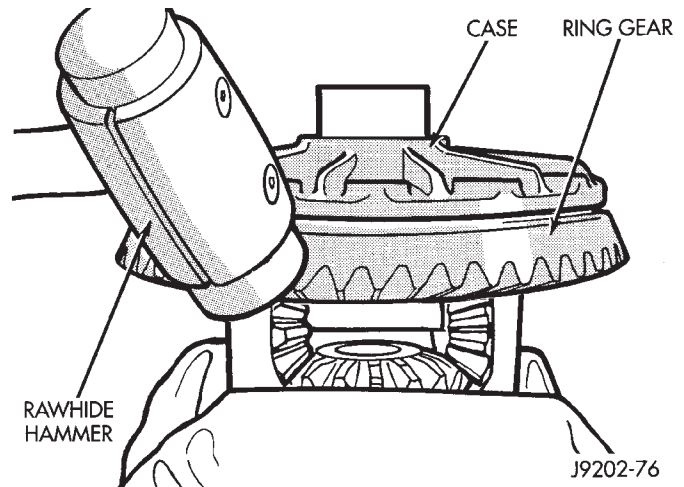

Fig. 28 Ring Gear Removal
(2) Remove bearing shims from case hubs and mark them (with hub identity) for assembly reference. Record the thickness of the shims.
(3) Clamp the differential case in a vise equipped with soft jaws. Remove and **discard** the ring gear bolts. Tap the ring gear with a rawhide or plastic mallet and remove (Fig. 28).